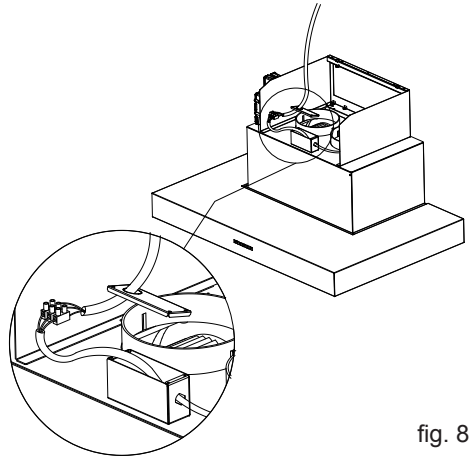

fig. 8
**CAUTION:** Make sure the power is turned off at source. Make electrical connections (refer to Figure 8).